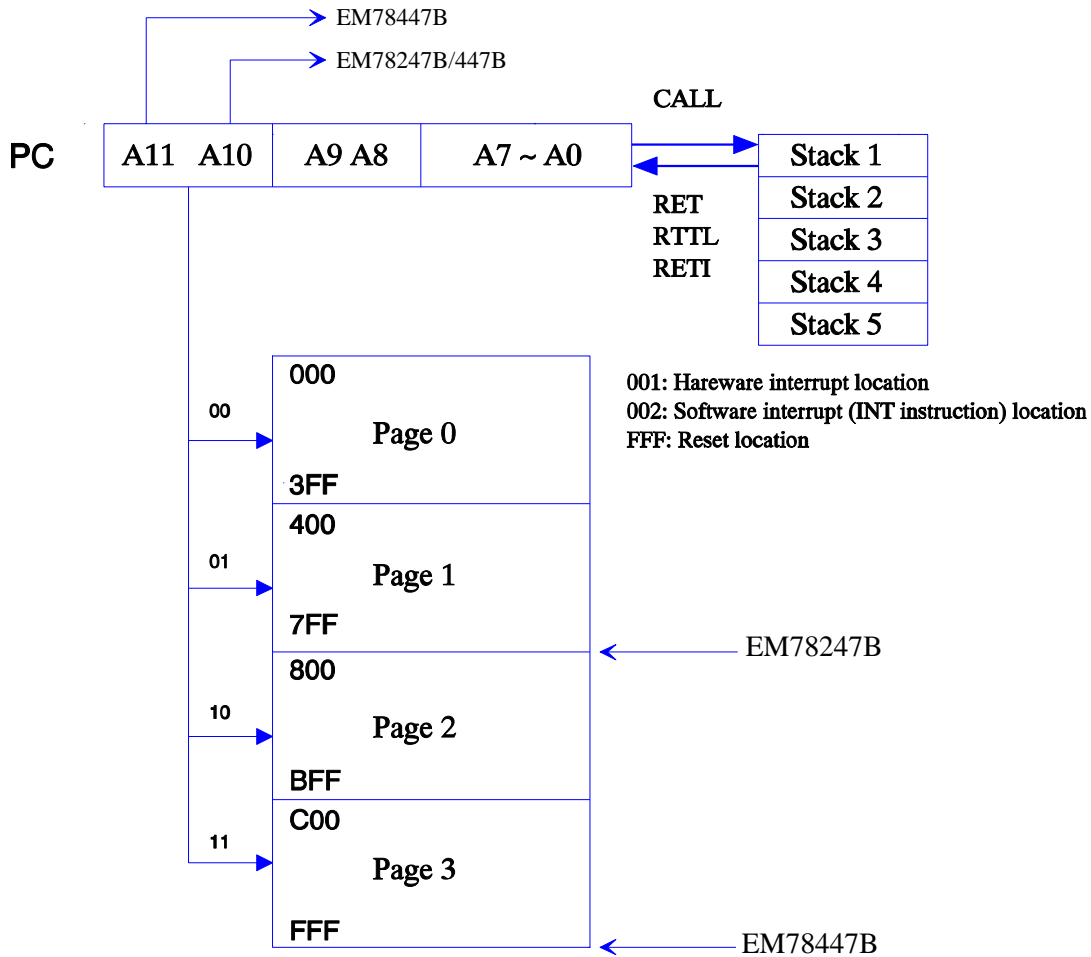

Fig. 3 Program counter organization
- Depending on the device type, R2 and hardware stack are 11/12 bits wide. The structure is depicted in Fig. 3.